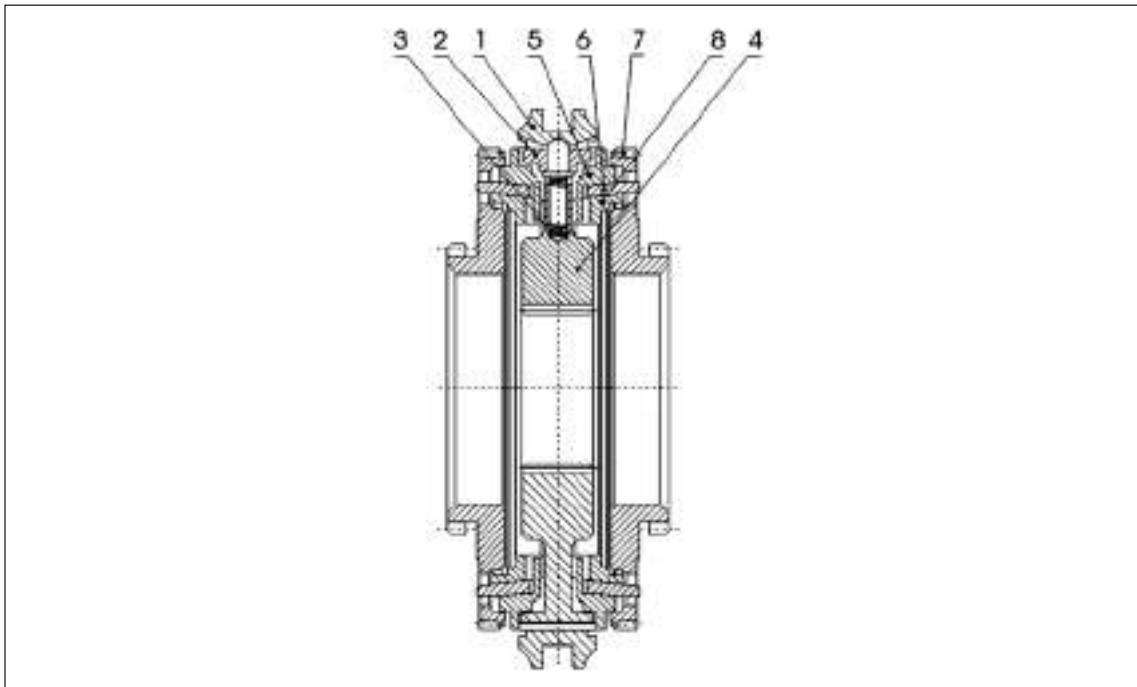

Fig. 5-5 Assembly of Double Conical Surface Synchronizer of Main Transmission
Fig. 5-5 is 5-6 speed synchronizer, 5 speed and 6 speed are both double conical surface, its gear sleeve, gear hub, slide block, spring of the synchronizer are commonly applied by both 5 speed and 6 speed, and both gears have three (5、6、8) conical parts, 6 single key in the outer cone of the synchronizer (5) are connected with 6 key groove in the inner cone of the synchronizer (8), therefore, outer cone (5) and inner cone (8) are rotated together with the shaft 2 of synchronizer, however, 6 stings on the synchronized cone (6) are integrated to 6 holes in the binding ring (7), therefore, cone (6) is rotated together with 5speed gear, the result is that when the transmission is shifted from 4 speed to 5 speed or from 6 speed to 5 speed, 5 speed gear produces the relative angular speed difference with shaft 2, at this time, two pairs of slide friction conical surfaces starts to work in 5 speed synchronizer conical structure, therefore, based on the same general dimension, the synchronized friction torque produced on the friction cone by the axial push force applied on the gear sleeve of synchronizer equals to the sum of friction torques applied between two pairs of cone, i.e. the synchronized friction torque produced in 5 speed is about two times of single cone synchronizer, so as to reduce the shifting force by about 50%.